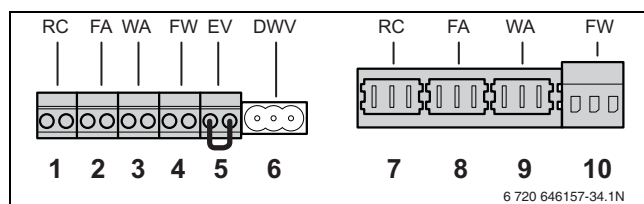

Fig. 37 External connection board connections
- ▶ Connect a Room- or Cascade controller to the orange RC terminal (→ fig. 37) (→ § 7.1.4, page 26).
- ▶ Connect the outdoor temperature sensor to the blue FA terminal (→ fig. 37).
- ▶ Connect the potential-free heat demand contact (On/Off thermostat) or relay panel end switch to the green WA terminal (→ fig. 37).
- ▶ Remove the cable from the EV terminal (→ fig. 37).
- ▶ Connect the external switch contact to the red EV terminal (→ fig. 37).